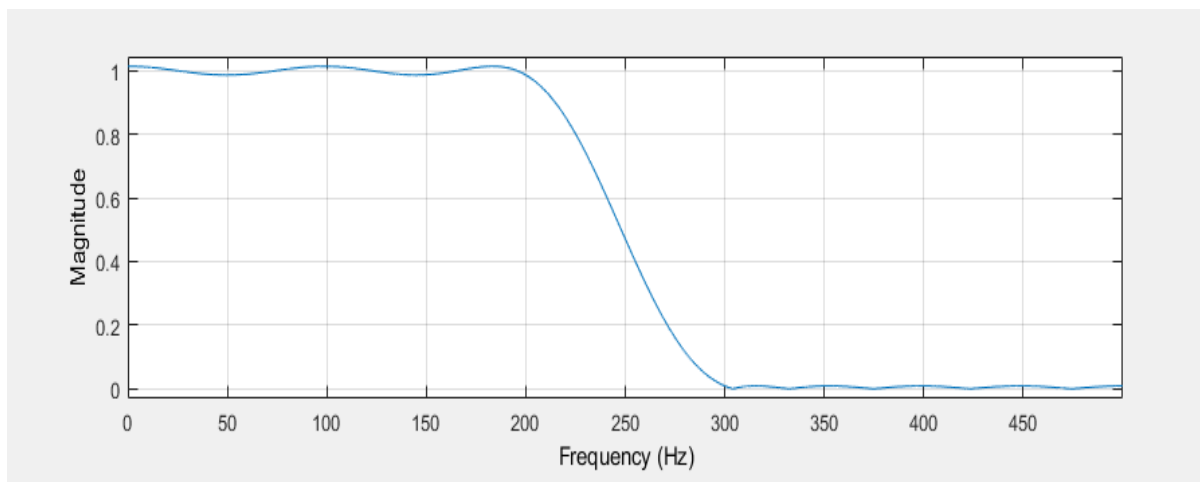
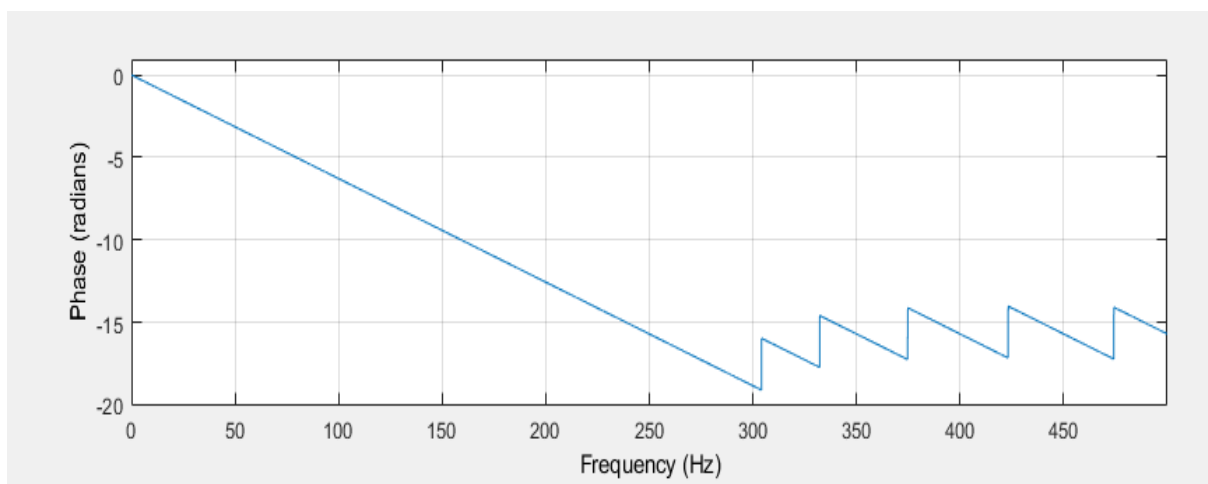

Figure 1. Magnitude Response of the Designed FIR Filter.
Figure 2: Phase Response of the Designed FIR Filter.
7. Click the Design Filter button to generate the FIR filter and the tool will display the Magnitude Response (Figure 1) and Phase Response (Figure 2) of the filter.